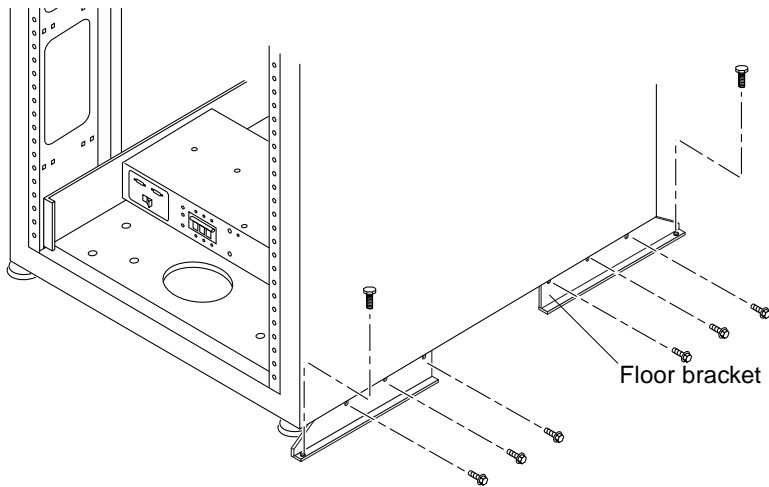

FIGURE 1-6 Attaching the Floor Brackets
2. Using a 7/16-inch wrench, attach the right floor brackets to the front and back of the expansion cabinet (FIGURE 1-6).